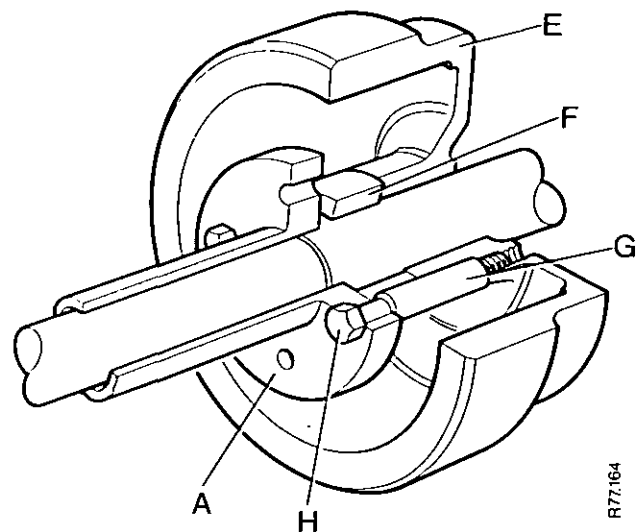

FIGURE 109. BRAKE DRUM REMOVAL
11. Use Service Tool K960618 to remove the brake drum as follows: See Figure 109.